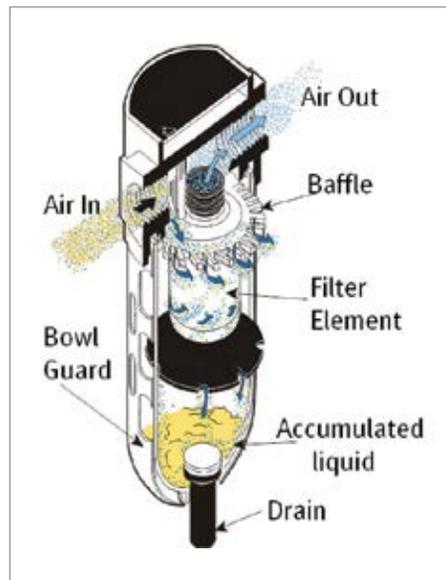

Figure 2: Coarse filters remove larger sized particles, condensate and oil, and protect finer filters downstream.
- Coarse / particulate filters (Figure 2) have a pore size of 5 to 40 microns. The air flows past a centrifugal separator and then through the filter element. The filter elements are often a sintered material, like polyethylene or bronze.